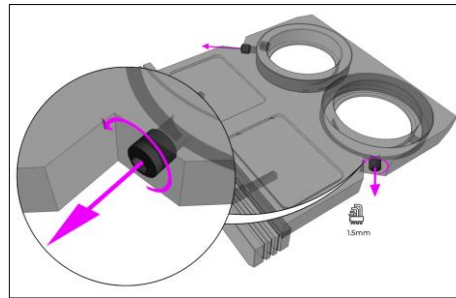

Figure 42
2. Loosen the two filter retaining screws on the excitation filter holder using a 1.5 mm hex key (Figure 42). The retaining screws should not be removed.